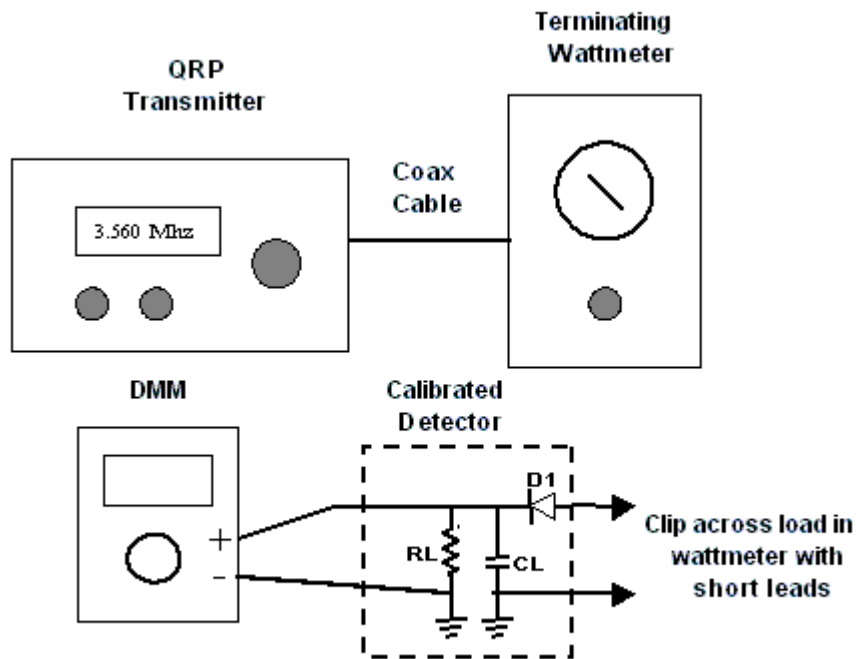

Figure 5 - Terminating Wattmeter Test Setup
2. Connect the signal source, the test set and the detector to be tested as shown in Figure 5.
To perform the test connect the wattmeter to be tested the QRP rig and the calibrated detector as in Figure 5.